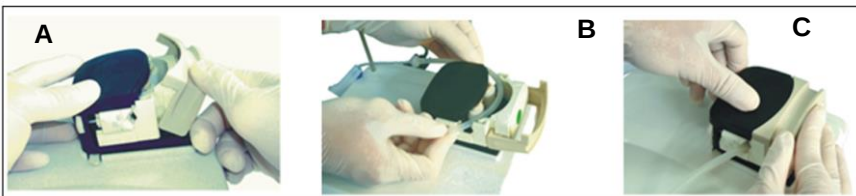

Fig. 4
Danger: Personnel injury. The footswitch of the Ultrasurgery must not be activated when the door of the peristaltic pump open. (Fig. 4 - Ref. B). Moving parts could injure the operator.
The footswitch of the Ultrasurgery must not be activated when the door of the peristaltic pump open. (Fig. 4 - Ref. B).
- Open the lid (Fig. 4 - Ref. A) as far as it will go;
- Position the tube on the impeller (Fig. 4 - Ref. B).
- Close the lid completely (Fig. 4 - Ref. C).
The footswitch of the Ultrasurgery must not be activated when the lid of the peristaltic pump open. (Fig. 4 - Ref. B). Moving parts could injure the operator.